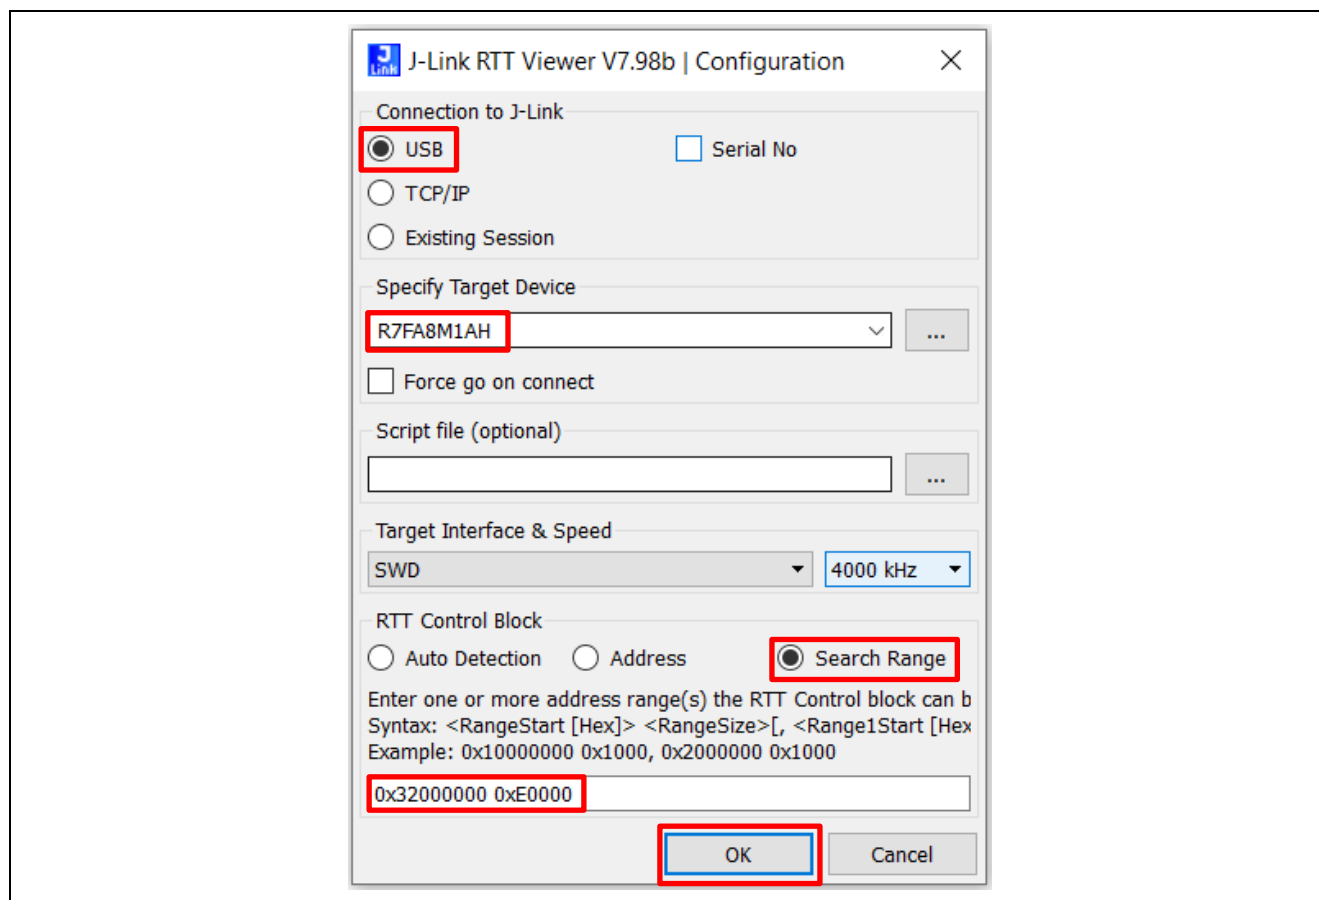

Figure 17. Configure the RTT Viewer
6. Open the J-Link RTT Viewer and set up the same configuration as Figure 17.
- Open the J-Link RTT Viewer and set up a configuration similar to Figure 17, except change the search range to 0x22000000 0x8000.
- Confirm the same configuration as shown in Figure 17, then click **OK**.